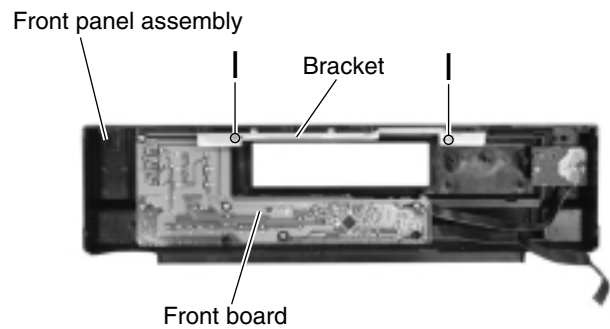

Fig.14
■ Removing the front board (See Fig.14 and 15)